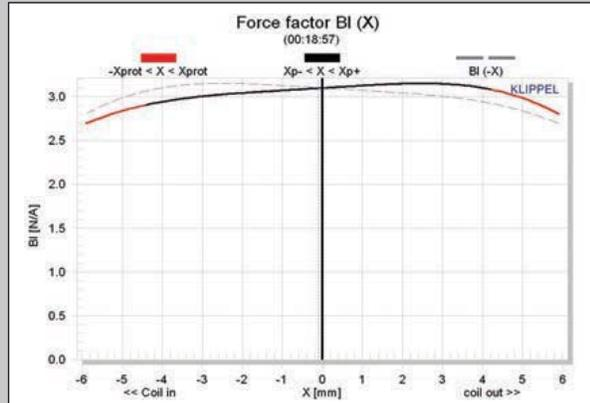
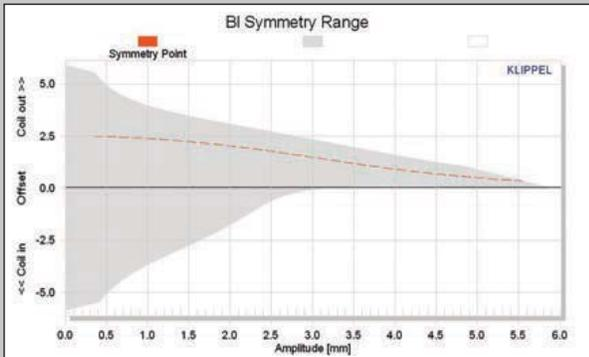

Figure 17: Klippel Analyzer BI (X) curve for the Fountek FR89EX
Figure 18: Klippel Analyzer BI symmetry range curve for the Fountek FR89EX
Klippel analysis for the Fountek 3" full-range (our analyzer is provided courtesy of Klippel GmbH), and testing performed by Pat Turnmire, Red Rock Acoustics (author of the SpeaD and RevSpeaD software) produced the Bl(X), Kms(X) and Bl and Kms Symmetry Range plots given in **Figures 17** to **20**. The Bl(X) curve for the FR89EX (see **Figure 17**) is relatively broad and with a degree of asymmetry. Looking at the Bl Symmetry plot (see **Figure 18**), this curve shows a 2.5-mm coil-out offset at the rest position that decreases to 0.50 mm at the physical 5.0 mm X_{max} of the driver.